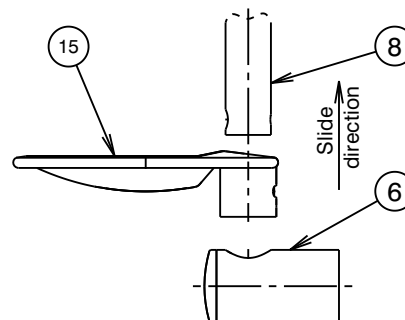

Fig.2
- ii) Insert round end of wall plugs (4) into drilled holes and tap until flush with surface.
- ii) Insert round end of wall plugs (4) into drilled hole and tap until flush with surface.
- 5) Remove bottom mounting base (6) from shower rail (8). Slide soap dish (15) into shower rail (8) as shown in Fig.2. Fit mounting base (6) back into shower rail (8).
- 6) Remove the caps (5) from the mounting bases (6) then insert screws (7) through the front of mounting bases (6). Insert the screw ends into the wall plugs (4) installed and tighten the screws (7) to ensure mounting bases (6) firmly against wall tile face. Fit caps (5) back into mounting bases (6).